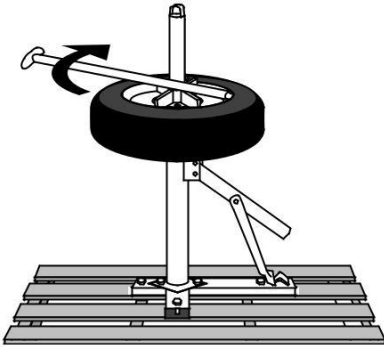

Figure 11
17. Slide bar down and, using the Post Cap as leverage, pull the Bar around, continuing to separate the bead from rim. See Figure 11, below.